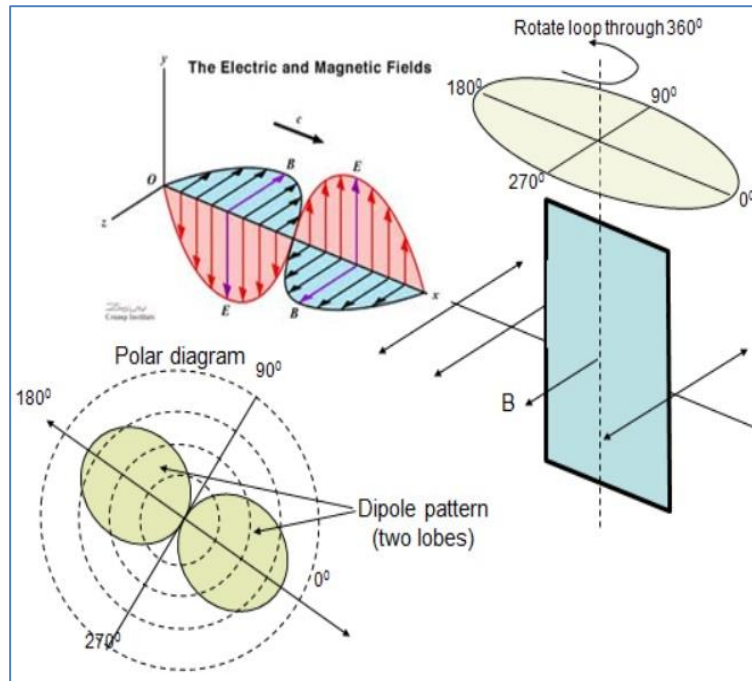

Figure 10.1: Loop antenna
1. Design a small loop antenna as shown in the figure 10.1 for a specific frequency, such as 100 MHz.